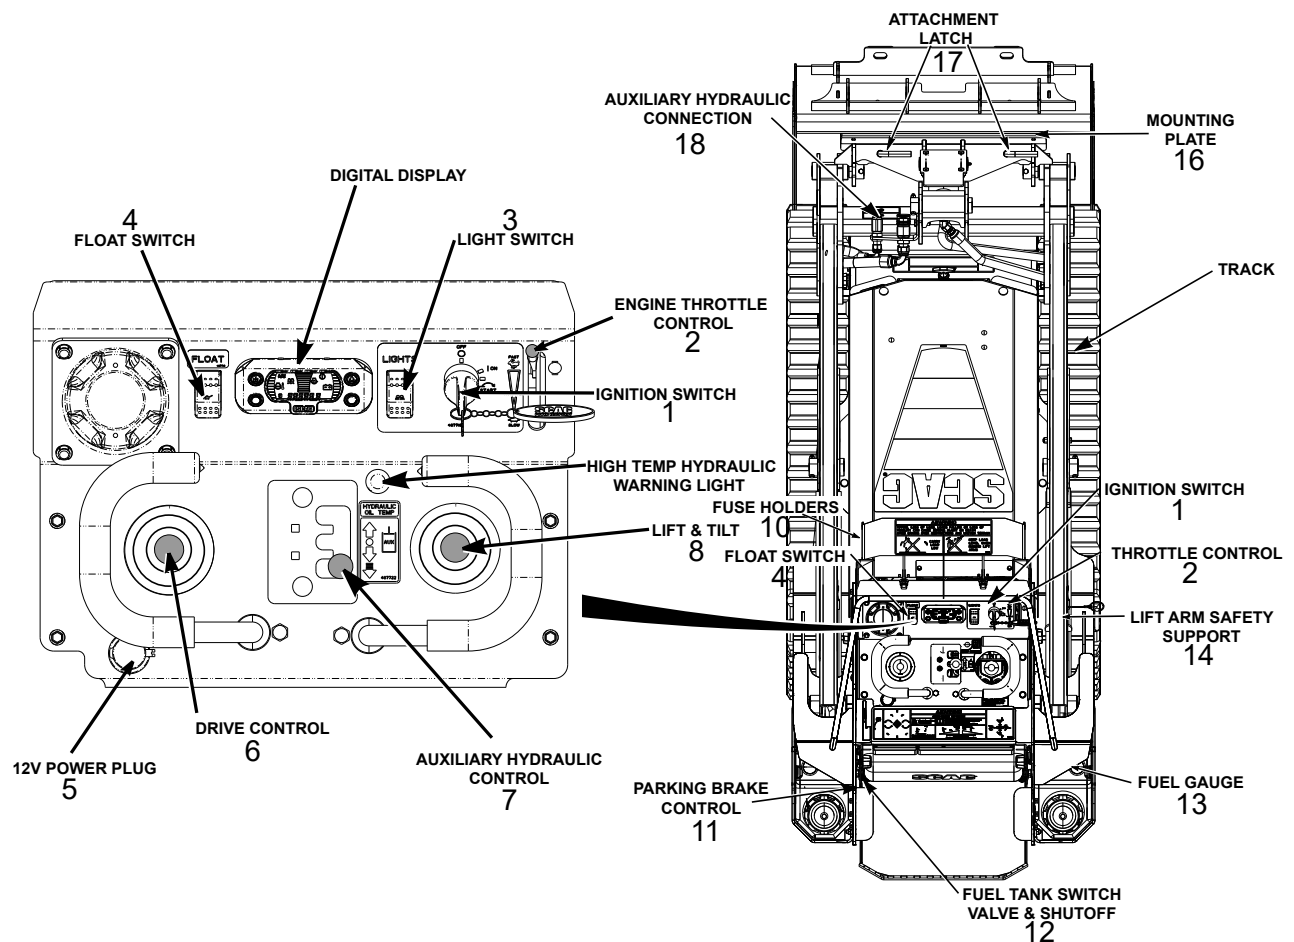

Figure 4-2. Controls and Instruments
1. **Ignition Switch (Figure 4-2).** The ignition switch is used to start the engine and has three positions; OFF, ON, and START.
2. **Engine Throttle Control (Figure 4-2).** Used to control the engine speed. Pushing the lever forward increases engine speed. Pulling the lever back decreases engine speed. Full back position is the IDLE position.
3. **Light Switch (Figure 4-2).** Turns working lights on and off.
4. **Float Switch (Figure 4-2).** Allows attachments to follow the contours of the ground when grading.
5. **12V Power Plug (Figure 4-2).** Added power supply for all your worksite needs.
6. **Drive Control (Figure 4-2).** Control direction and speed of track loader.
7. **Auxiliary Hydraulic Control (Figure 4-2).** Operate the auxiliary hydraulics in the forward or reverse direction.
8. **Lift & Tilt (Figure 4-2).** Controls machine lift arms.
9. **Hydraulic High Temperature Warning Light (See Figure 4-2).** Indicates overheating of hydraulic fluid.
10. **Fuse Holders (Figure 4-2).** There is one 20-amp fuse and one 50-amp resettable fuse that protects the loader's electrical system. To replace fuse, pull fuse out of the socket and install a new fuse.
11. **Parking Brake Control (Figure 4-2).** Used to engage and disengage the parking brakes. Move the lever back and lock to engage the parking brakes. Move the lever forward to disengage the parking brakes.
13. **Fuel Gauge (Figure 4-2).** Indicates the amount of fuel in the fuel tank.
14. **Lift Arm Safety Support (Figure 4-2).** Necessary to work or move around the machine with the lift arms in the raised position while the controls are unattended.
16. **Mounting Plate (Figure 4-2).** Located at the end of the loader arms to hook up attachments.
17. **Attachment Latch (Figure 4-2).** Secures attachments and accessories to mounting plate.
18. **Auxiliary Hydraulic Connection (Figure 4-2).** Delivers pressurized hydraulic fluid from a hydraulic pump to operate auxiliary equipment or attachments.